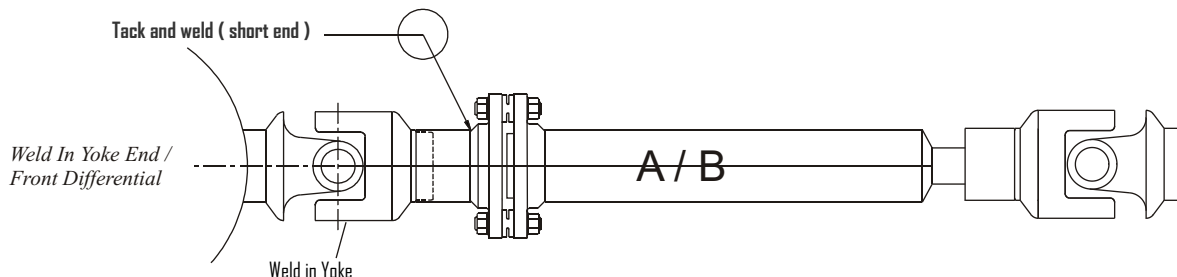

Fig. 3
5. Tack and weld the short end of the drive shaft to the Power Train Saver as shown in Fig. 3.